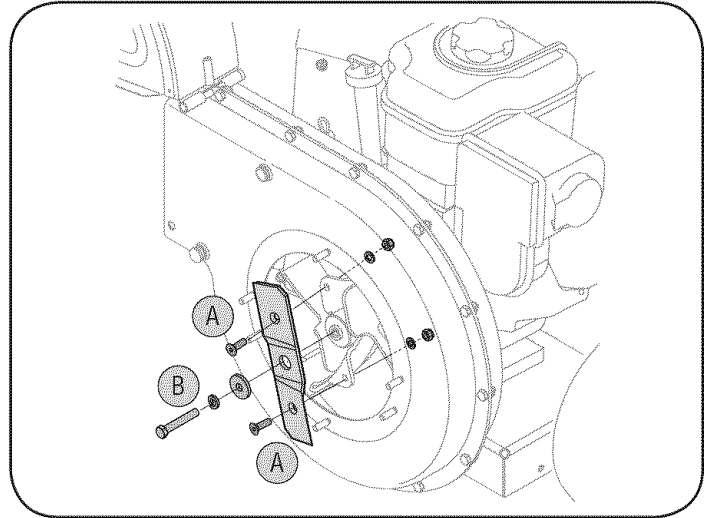

Figure 16
- b. Remove the hex bolt, lock washer, and flat washer to completely free shredder blade. See Figure 16.